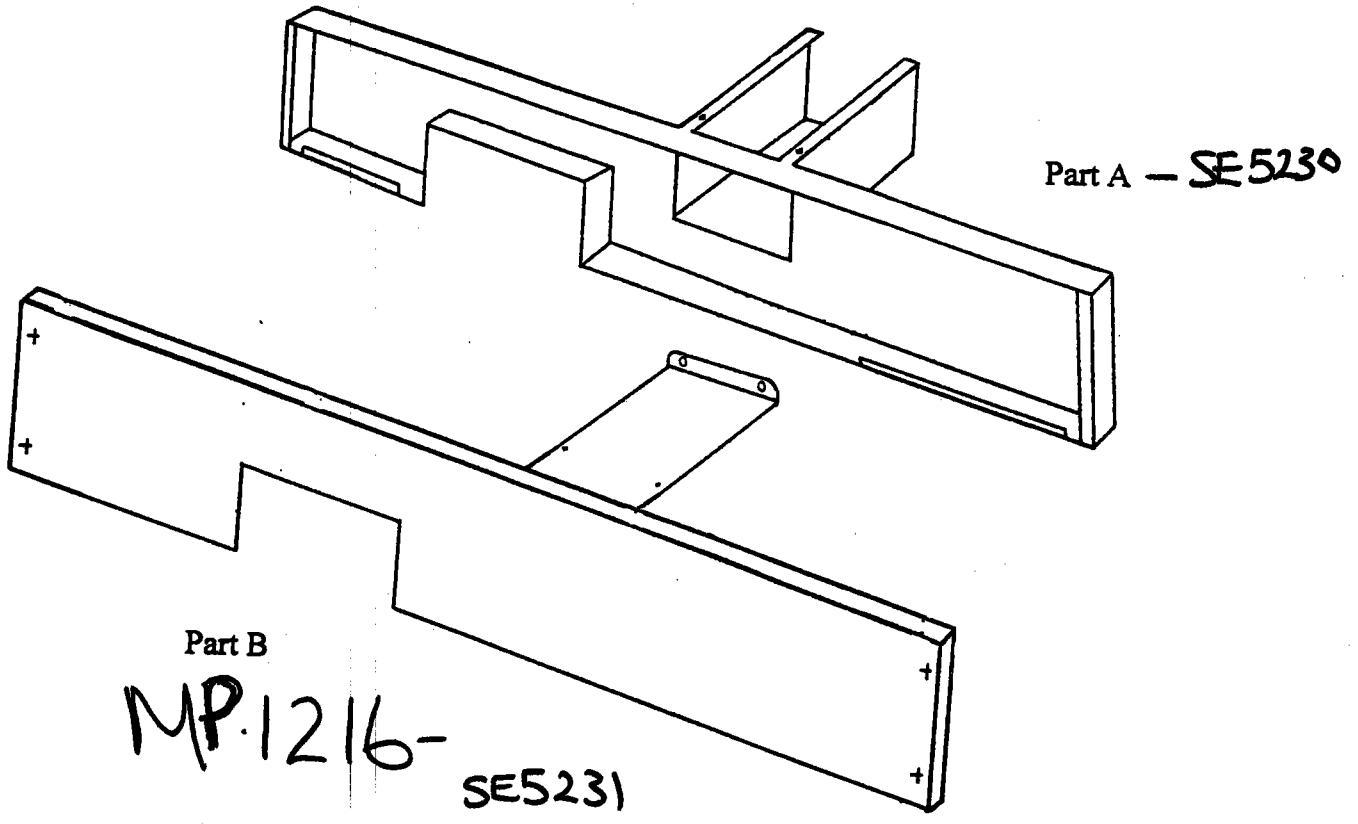

Fig. 5 Rear Wire Cover
- Step 11. Offer up Part A (See Fig 5) to the back of the Coin Chute Tower and the connector panels on each of the Main Bases. Fix Part A to the back of the Main Bases using 6x M4 x 12 screws (000-P00412-WB) and the large M4 washers provided in the Installation Kit. A Pozidrive screwdriver will be needed for this operation.